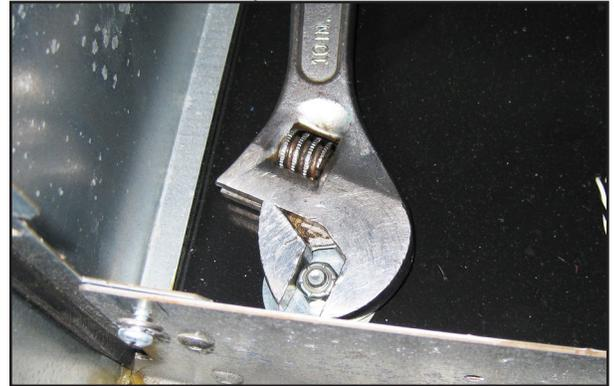

Figure 4: Removing Hole Plug
19. Find power harness kit part number 600-0165. Find the Wayne power harness and ground wire with ring terminal as shown in figure 4 of the Parts List. Remove tie-wraps and uncoil.